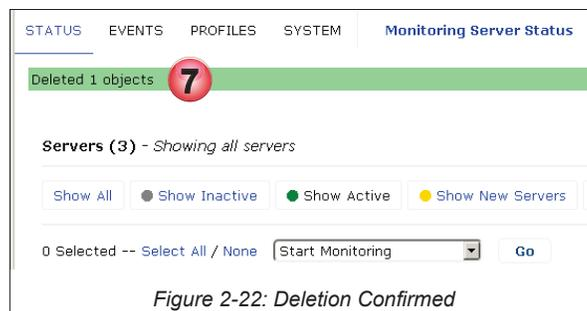

Figure 2-22: Deletion Confirmed
7. A message indicating success is displayed, Figure 2-22.